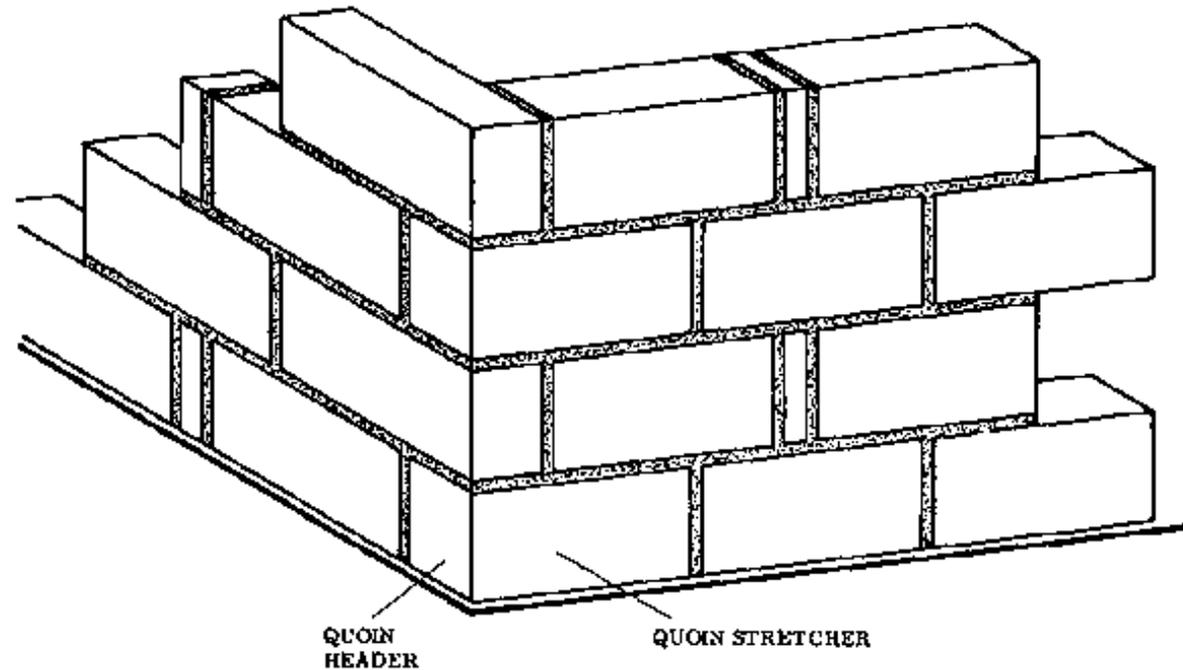

Fig. 1
**To maintain the required half-block bond, a 7 cm lack of overlap has to be made up. This is done by inserting a 5 cm block between the first two stretchers that follow the quoin headers (5 cm plus 2 cm joint equals 7 cm). Almost every building project uses thin blocks for copings or rain gutters etc., and these specially made blocks can be simply cut in half and used to fill the gaps (Fig. 1).**